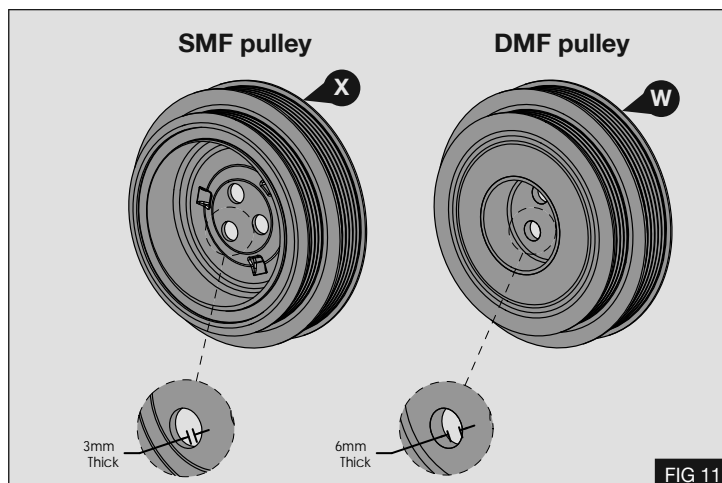

FIG 11
1. Check the type of engine crankshaft damper fitted to the vehicle, Single mass flywheel (SMF) (X) or dual mass flywheel (DMF) (W) - Fig 11